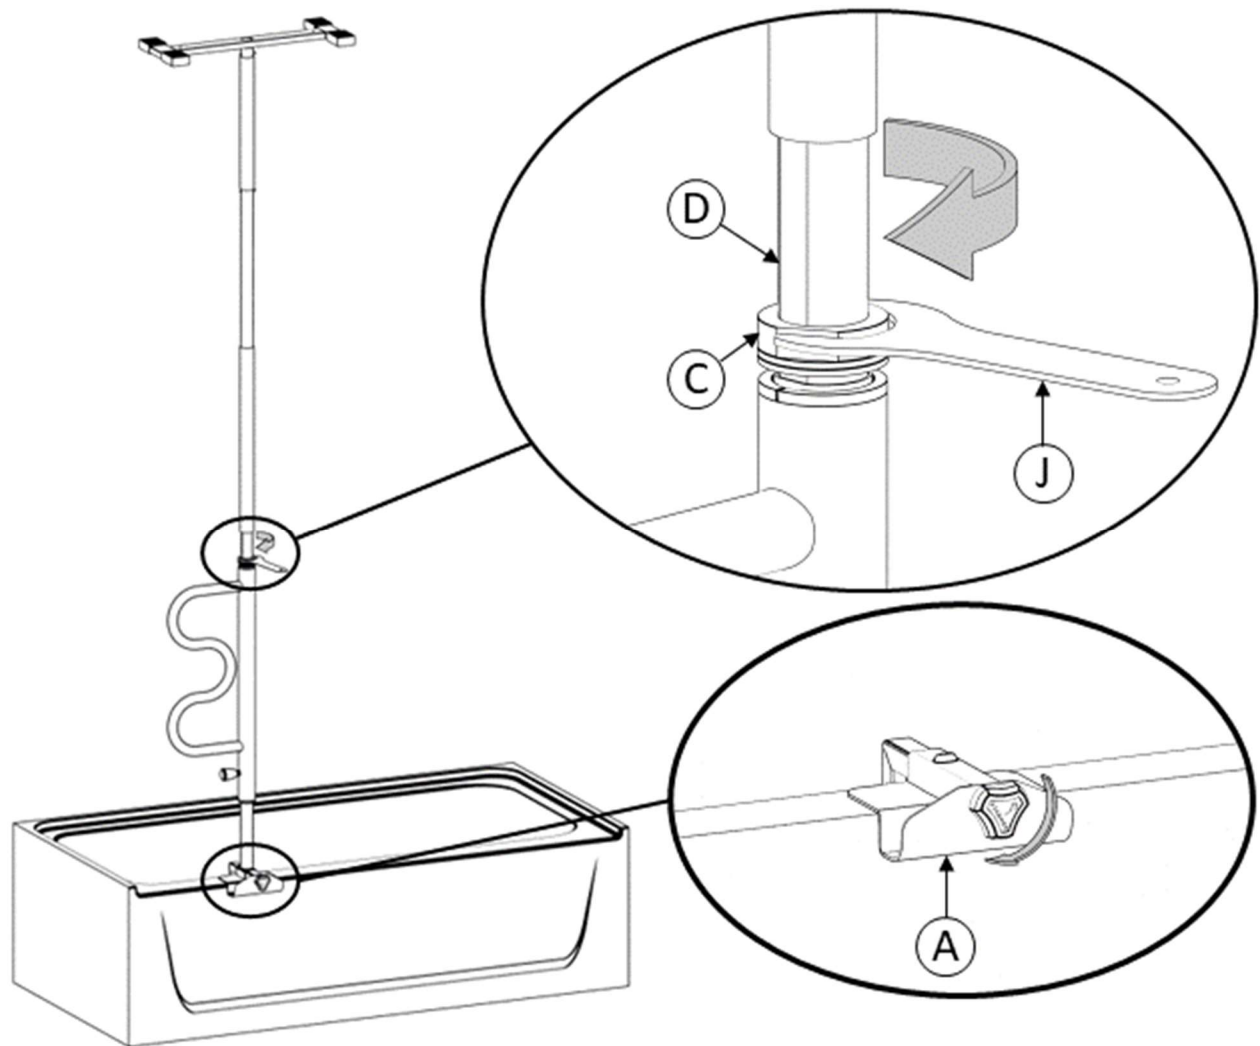

FIGURE 10
10. Ensure that the product is completely vertical (plumb). Tighten **C** using **J** as shown in *FIGURE 10*. Fully tighten **A**. Ensure the product is secured between the bathtub and the ceiling with ABSOLUTELY NO sliding of the product.